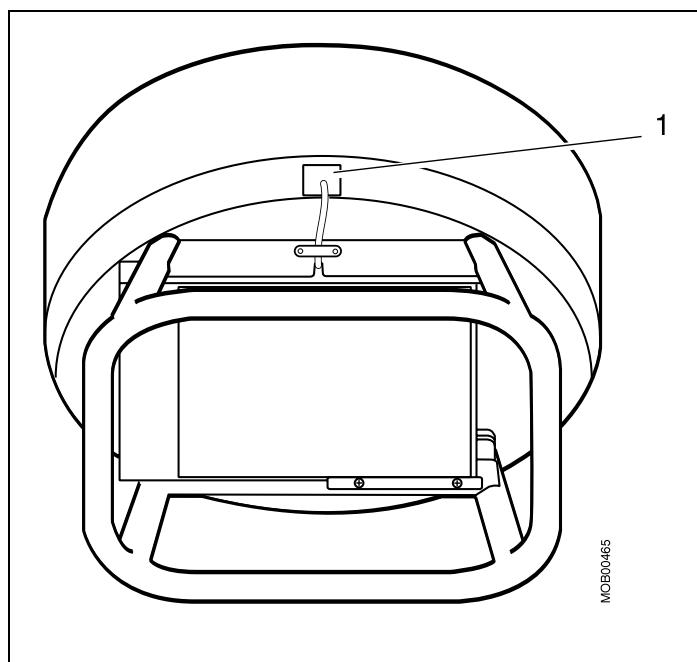

Fig. 81: DAP plug
- Unplug the plug of the DAP ionization chamber (1/Fig. 81 / p. 85).
- Remove the DAP calibration tool and reconnect the DAP ionization chamber (1/Fig. 81 / p. 85).